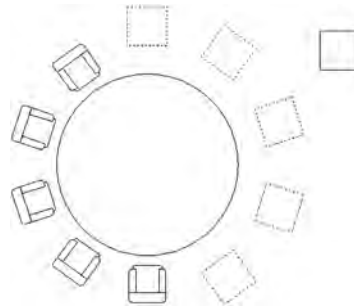

FIGURE 8.7
- **Replace Item.** If editing the source is too time consuming, then just replace it with another design via this option. AutoCAD asks you to select the replacement object and a base point. Use the Key Point option to pick a point on the replacement object. Finally, select an item (or several items) in the array to replace. Figure 8.7 shows Replace Item in action as squares replace the chair symbol.